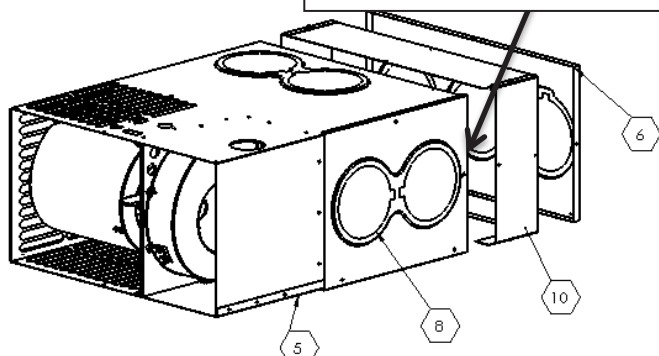

Figure 1
1. Remove back cover (6) from furnace by removing 4 screws fig 1.
2. Remove side panel (8) from furnace by removing 3 screws fig 1. With side panel removed, flatten vertical flange and set aside for later assembly.